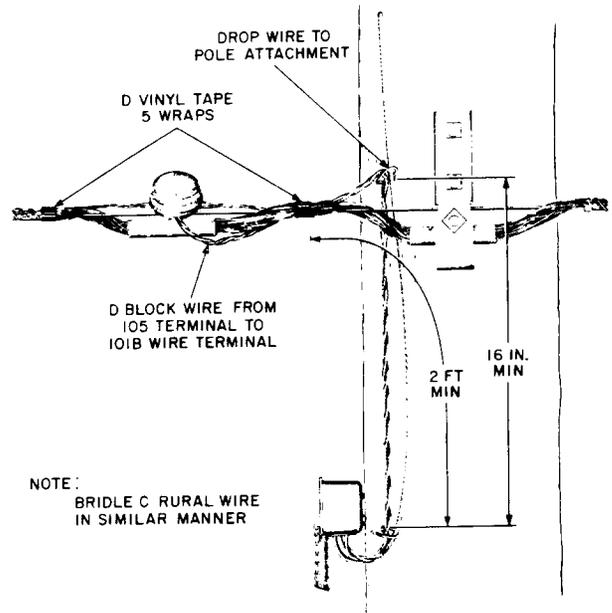

Fig. 13—Pole Attachment of Block and Rural Wire
8.05 Replace cover on wire terminal and dress pole attachments as shown in Fig. 13.